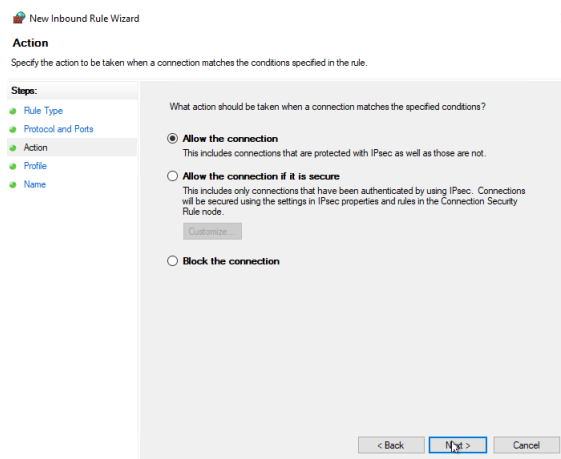

Figure B.4. New firewall rule: action
4. Select the protocol **TCP** and enter the desired port numbers (here shown for typical port numbers for MSC Licensing) in the input field **Specific local ports** and click **Next**. The next dialog page Figure B.4 will appear.